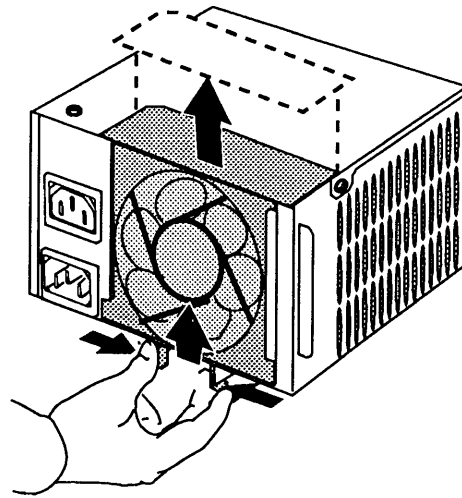

Figure 2-6 Fan and Fan Bracket
2. Unlatch the two bracket latches that protrude from the bottom of the power supply by gently squeezing them together (see **Figure 2-6**) until they clear the metal tabs. As the tabs release, push up so that the fan bracket separates from the power supply case.